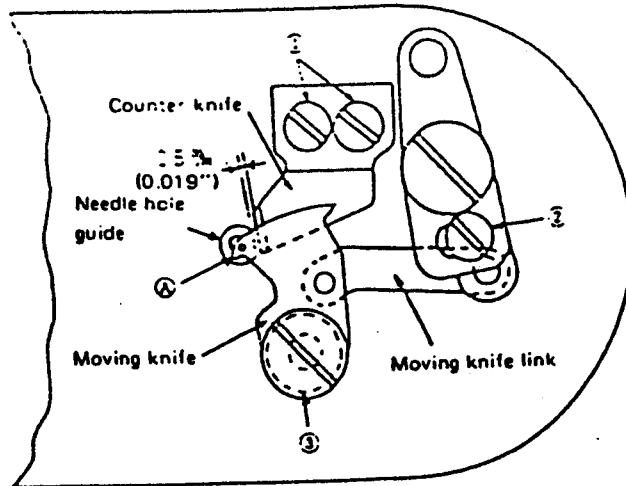

Fig. 37
Adjust the height of the moving knife according to the thickness of washer ③ of Fig. 37. If proper adjustment of the moving knife cannot be obtained, select and use one of the following parts.